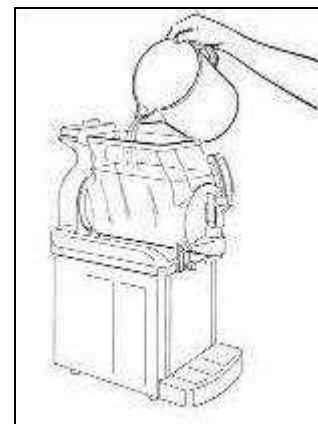

Fig. 12
- Pour lukewarm water into the bowl (fig.12) and, after re-positioning the main cover, make the scraper auger rotating for some minutes.